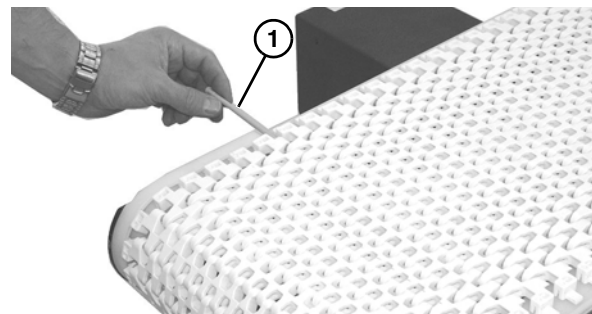

Figure 27
2. Use a punch and hammer to push the belt rod (**Figure 27, item 1**) out by striking the rod end opposite the retaining head.